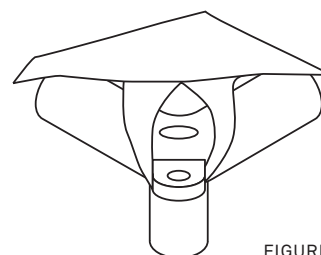

FIGURE 4
5. Lay the roof canvas over the frame. Pull the nylon loops over the corners as indicated in figure 4. On one of the corners there is a drawstring to make it easier to pull the last loop over the corner.